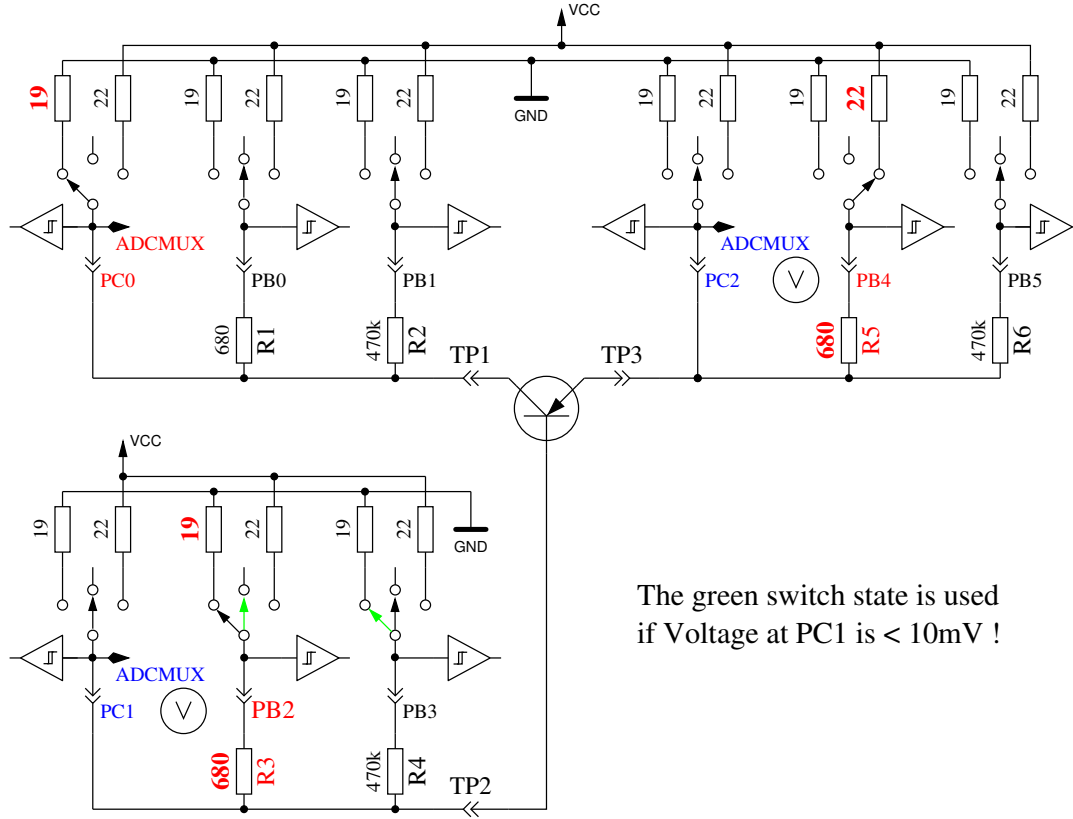

Figure 5.4: hFE measurement of PNP transistor with common collector circuit
First the current amplification factor is measured with common collector for the assumed PNP transistor. The measuring situation is shown in figure 5.4. If the measured voltage at the Base (UB)